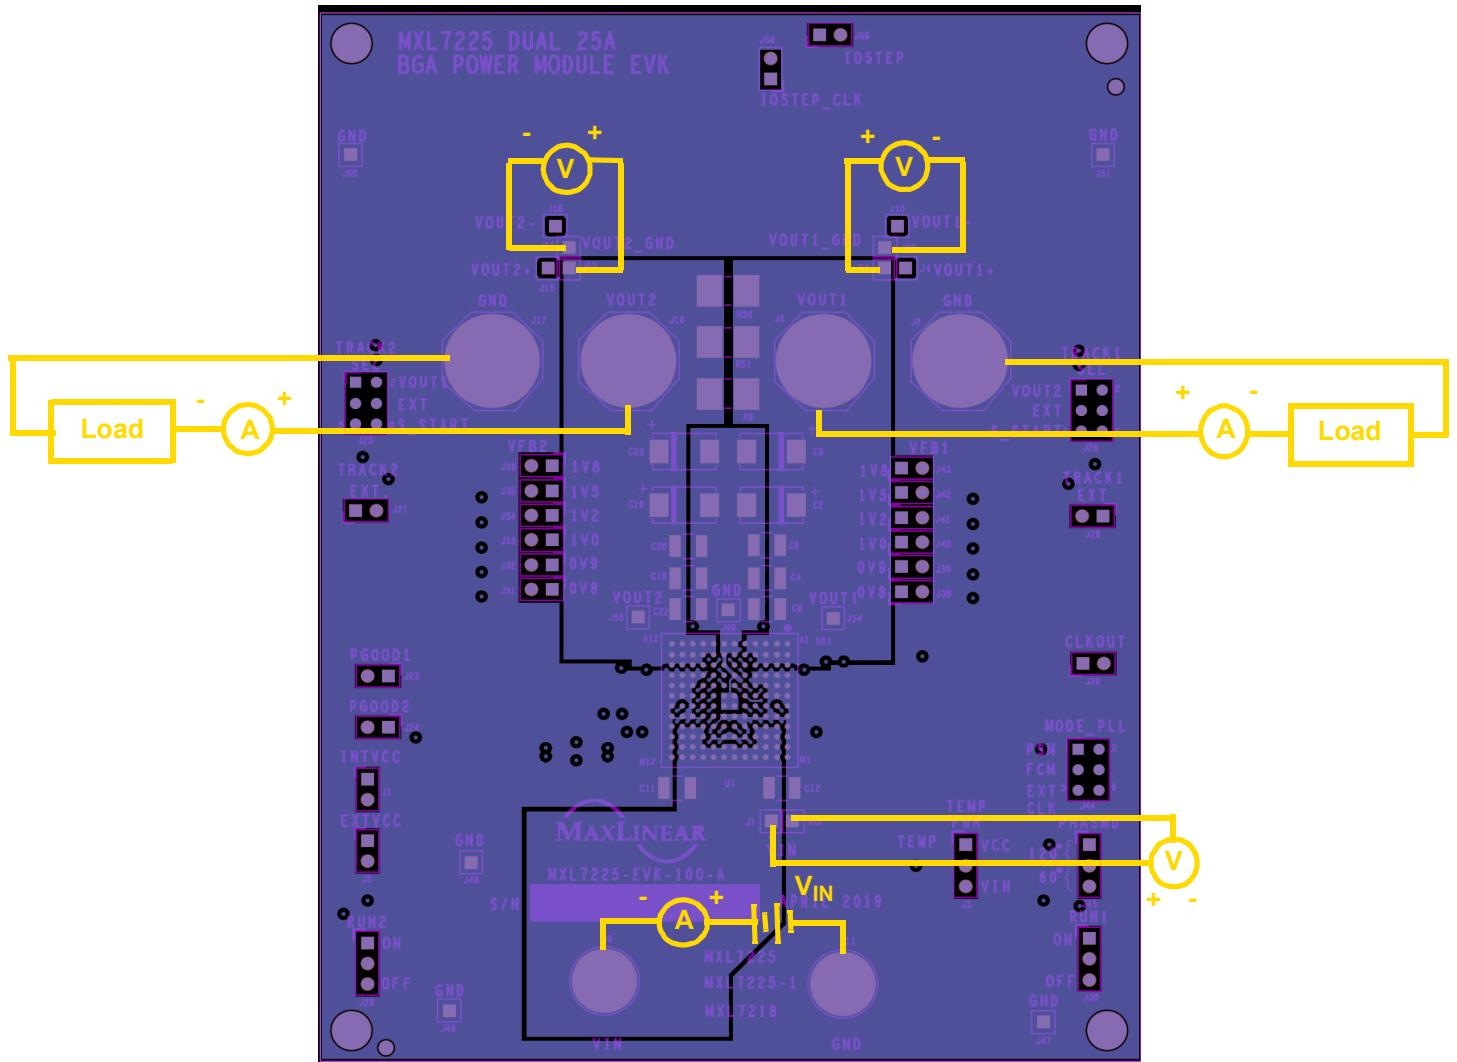

Figure 1: Monitoring V_{IN} and V_{OUT}
2. Connect a turned-off power supply that is within a V_{IN} specification of 4.5V to 15V, (12V typical) to V_{IN} and GND with short, thick leads. Use test pins V_{IN+} and V_{IN-} to monitor V_{IN} and GND respectively. See locations in Figure 1.
3. For the channel 1 output, connect an electronic load initially set to 0A, that will be no more than the above maximum I_{OUT} (25A), to V_{OUT1} and GND with short / thick leads. Use test pins V_{OUT1} (J52) and V_{OUT1_GND} (J60) to monitor V_{OUT1} and GND respectively. See locations in Figure 1.
V_{OUT2_GND} (J61) to monitor V_{OUT2} and GND respectively. See locations in Figure 1.